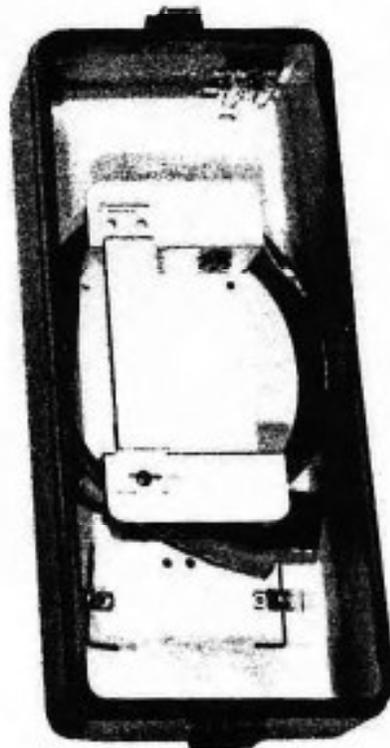

Figure 1-1. TR-9 Transceiver.
**1-1. PURPOSE OF EQUIPMENT.** The Hallcrafters Model TR-9 Transceiver (figure 1-1) is a rugged, lightweight, fully transistorized, amplitude modulated or CW transceiver designed to operate in the 2- to 12-MHz frequency range. The transceiver is designed to provide reliable communications under adverse conditions in either portable, mobile, or base-station operation. A complete line of accessories is also available to expand the transceiver capabilities. See Section VIII for listing of the optional accessories.